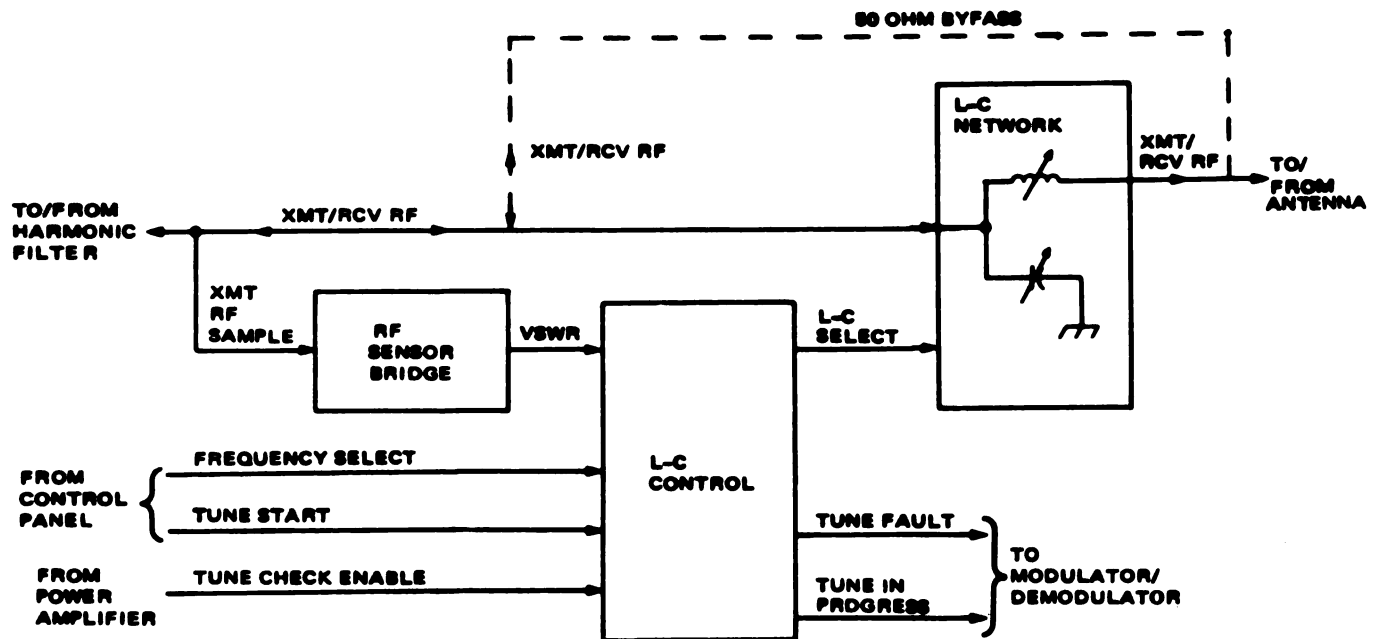

Figure 3-9. Antenna Tuner Block Diagram
3-37. ANTENNA TUNER (Figure 3-9). The antenna tuner automatically transforms the antenna impedance (reactive/resistive) to 50 ohms. This is done by using an adjustable L-C network. The antenna tuner is normally off, and the L-C network is held in place by magnetic latching relays. The antenna tuner becomes operational whenever: (1) the radio is turned on, (2) the MODE switch is changed from V-RCV to V-TR or D-RCV to D-TR, or (3) the frequency is changed. This causes a tune start signal to be applied to the L-C control from the control panel.